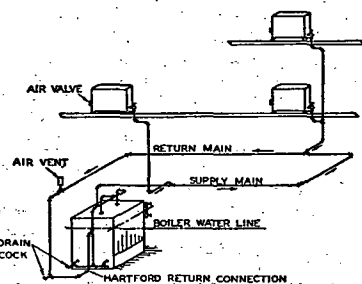
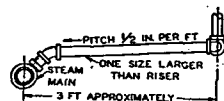
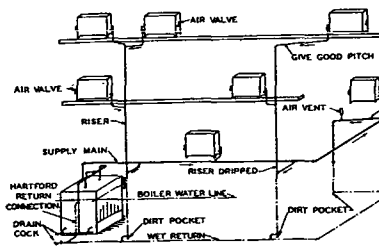

Fig. 3....Typical Up-Feed Gravity One-Pipe Air-Vent System
Fig. 4....Typical Steam Runout where Risers Are Not Dripped
Fig. 8....Preferred Up-Feed Gravity One-Pipe Air-Vent System
1. *Up-feed one-pipe systems where the radiators and other heating units are located above the supply mains.* The mains in this instance convey both steam and condensate. Therefore, it is preferable to limit this design to systems with a connected load under 2500 sq ft EDR. Such a system is illustrated in Fig. 3. Typical connections to radiator or risers are illustrated in Figs. 4 and 5 and method of changing sizes of mains in Fig. 6.
2. *Up-feed one-pipe system with a connected load in excess of 2500 sq ft EDR, where radiators and other heating units are located above the mains, as illustrated in Fig. 8.* It will be noted that the mains are dripped at each riser connection to a wet-return, as indicated in Fig. 5, so that the mains carry a minimum of the condensation. This feature is always desirable in the design of any one-pipe steam system. Radiators immediately above the mains may be connected as shown in Fig. 4. Up-feed systems are not recommended for systems higher than four or five stories.
To improve steam circulation in one-pipe systems quick-vent air valves should be provided at the ends and at intermediate points where the steam main is brought to a higher elevation, or where dropped below the water line. It is desirable to install the air-vent valves about a foot ahead of the drips, as indicated in Fig. 8, to prevent possible damage to their mechanisms by water.